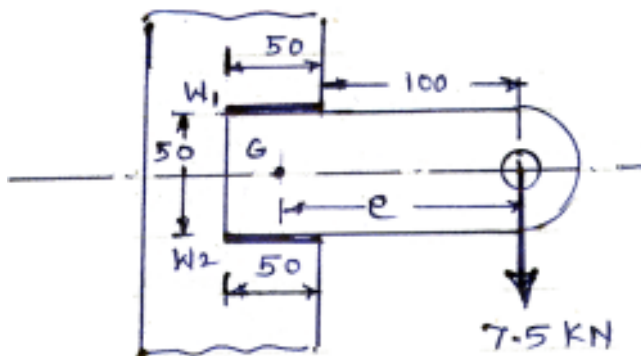

fig.1 Q.4(b)
- b) A welded connection as shown in fig.1 is subjected to an eccentric force of 7.5 kN. Determine the size of welds if the permissible shear stress for the weld is 100 N/mm^2 . Assume static conditions. 10